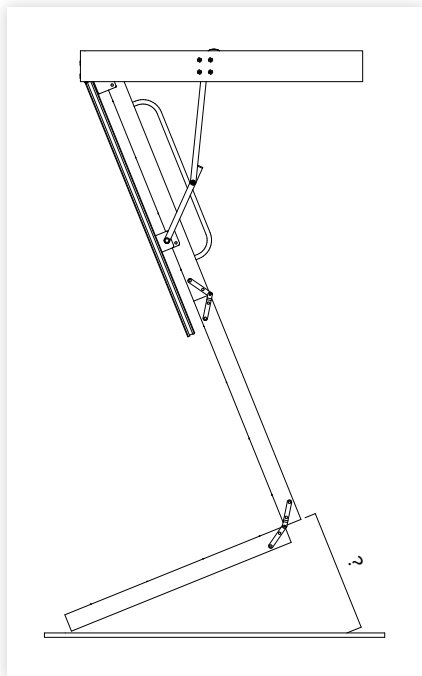

figure 10
1. With the top and middle sections of the ladder open and the bottom section tucked in behind, measure the distance from the bottom of the middle section, to the floor at the same angle as the ladder (figure 10). Do this on both sides.
2. Once you have determined the length of 'x' (figure 10) deduct the following: